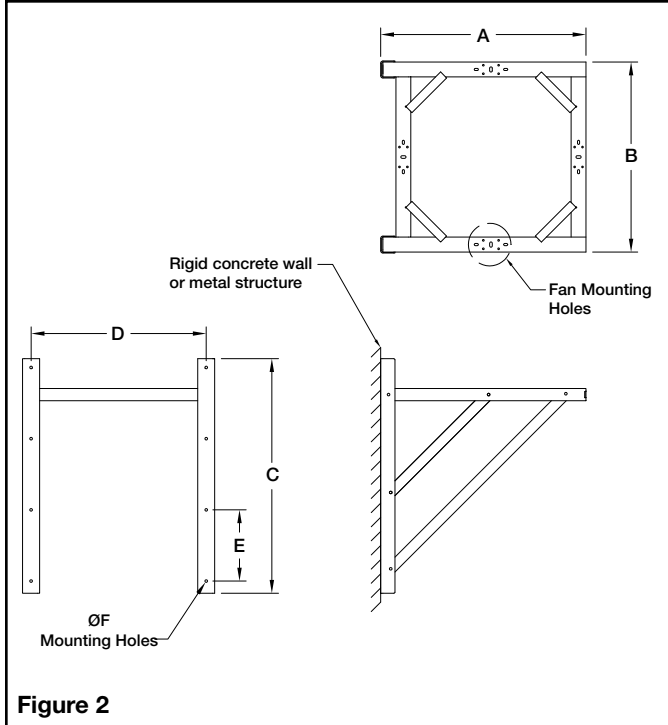

Figure 2
3. Torque all fasteners (see Table 1) after assembly is complete. Final assembly will look as shown in Figure 2.